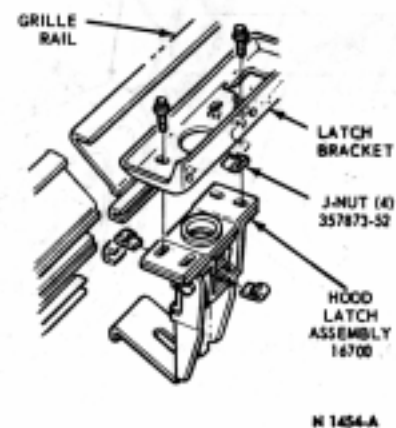

FIG. 6 Bronco Hood Latch Installation
2. Remove the four screws that secure the hood latch assembly to the latch bracket of the grille (Fig. 6). Remove the latch from the opening between the grille and radiator.